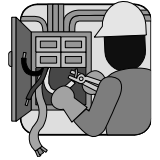

FIG 3.
- B. Fit the round solid die in the stock. The hollow indentions must be positioned to line up with the lock screws. (Fig 3)